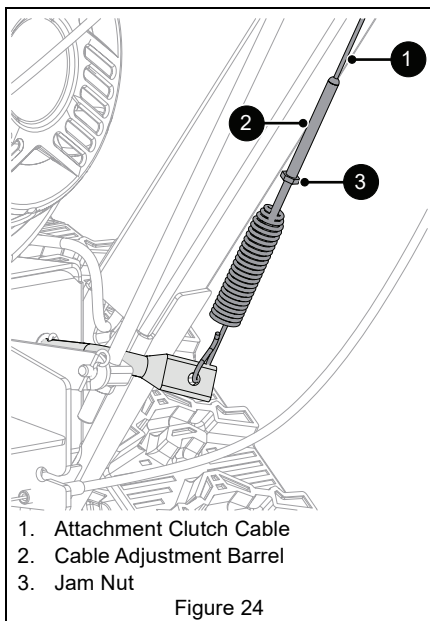

Figure 24
4. Loosen jam nut on cable adjustment barrel, and then turn the adjustment barrel down to shorten cable and remove cable slack. See Figure 24.
6. Tighten jam nut on cable adjustment barrel. See Figure 24.